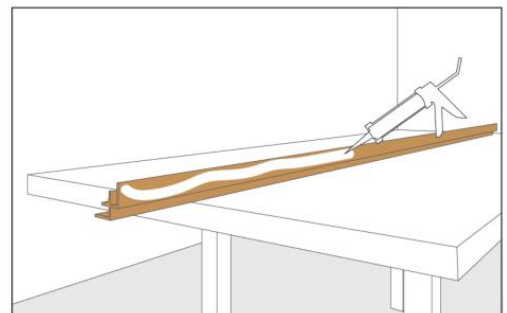

Fig.3
- Apply adhesive to the back of the internal corner trim.(Fig.3)